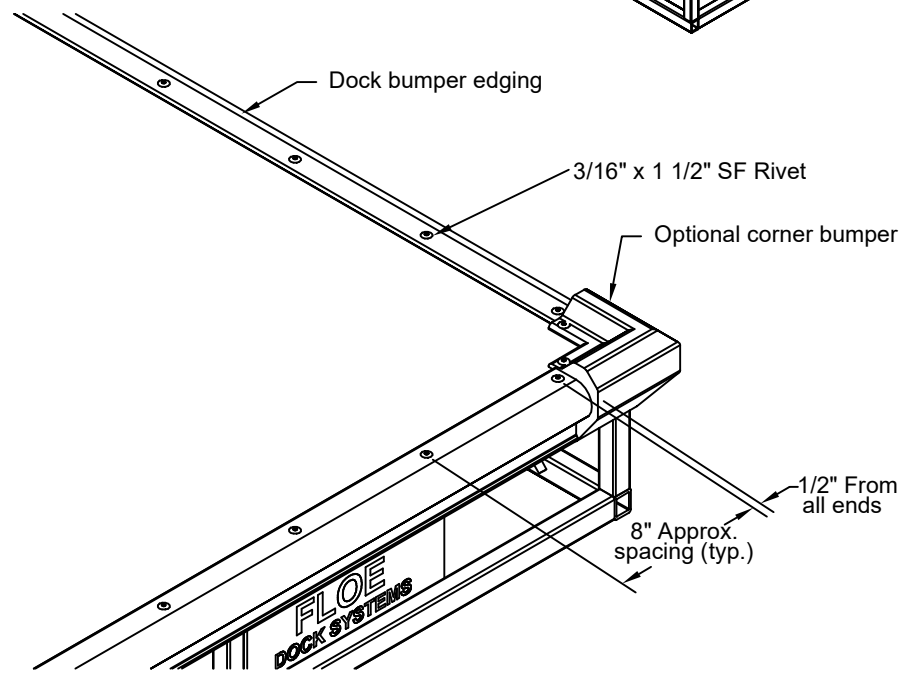

Fig. 1
2. Drill holes for rivets using a #9 drill (.196 dia.). See Fig. 1 below for proper spacing.
See Fig. 1